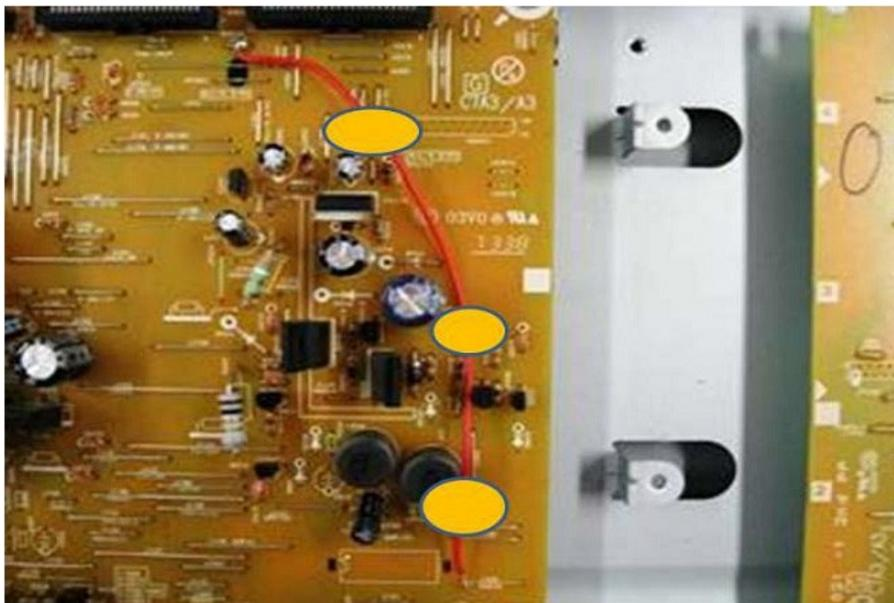

Figure 3
4. Bond the wire to the board as shown in Figure 3.